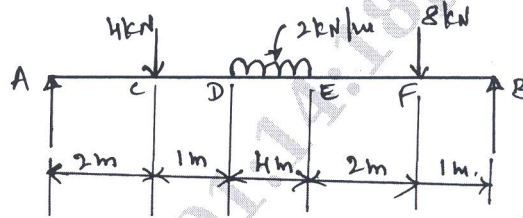

Fig.Q.6(b)
- b. Draw shear force and Bending moment diagram for the beam as shown in Fig.Q.6(b). Locate the point of contraflexure. (15 Marks)